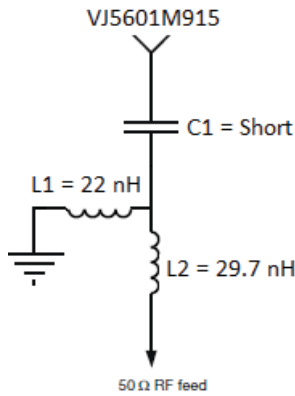

Fig. 1 - Tuning Example with Inductors L1, L2 and Capacitor C1
(1) See figures 1 through 6 for more details on the radiation pattern (antenna gain) at 915 MHz; the PCB board ground is shorted to earth ground for tuning.